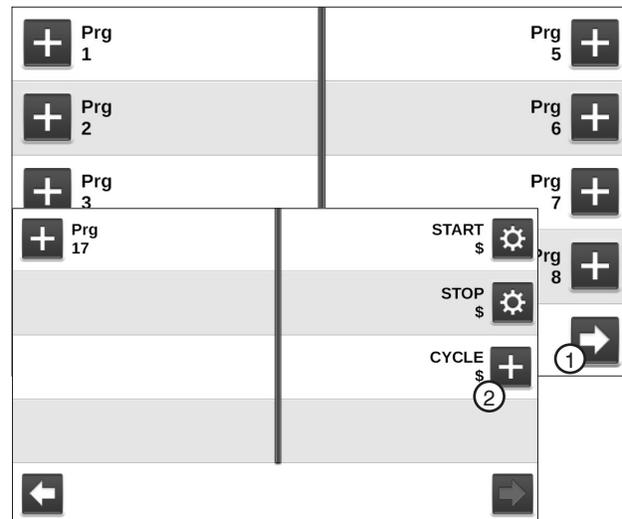

Figure 138-2 Step Programs Screen
1. Push **Menu**, **Programs** and **Step Programs** to view the Step Programs screen. Refer to Figure 138-2.